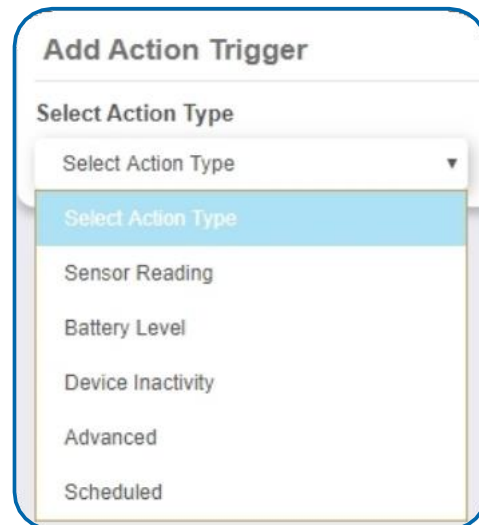

Figure 19
- The drop-down menu will have the following options for Action Types: (See Figure 19)